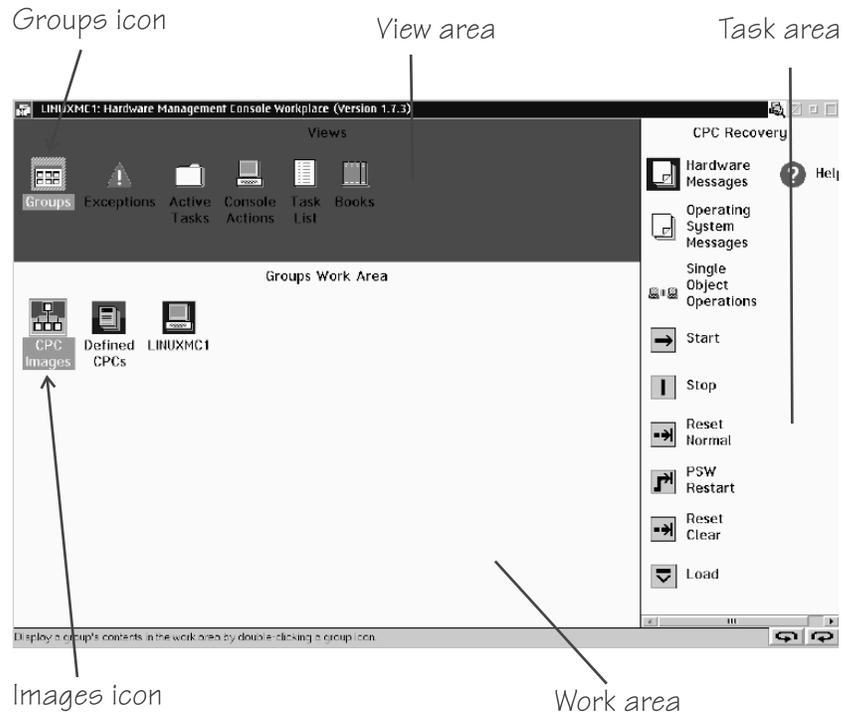

Figure 61. Groups Work Area on the HMC
1. Click the Groups icon in the "Views" area of the HMC to display the "Groups Work Area" (Figure 61 on page 295).